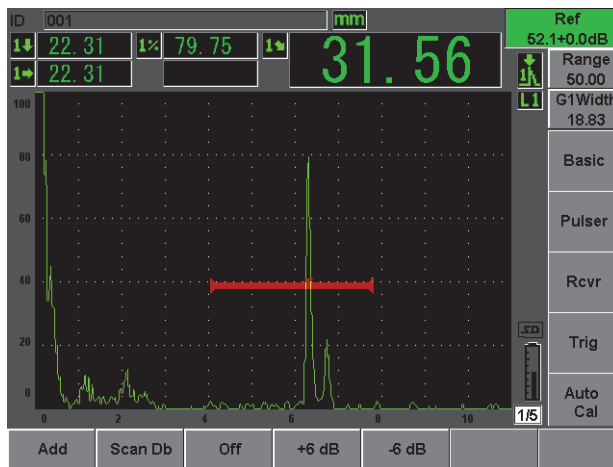

Figure 2-18 Reference gain setting
4. Set the sensitivity by capturing sensitivity hole or notch in gate 1, bringing the indication to 80 % screen height using (**AUTO XX%**), and then setting the reference gain by pressing [**2ND F**], (**REF dB**) [see Figure 2-18 on page 51].